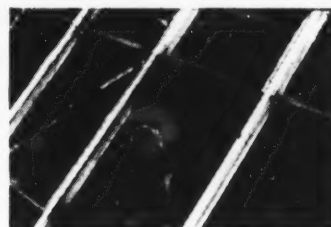

Figure 6
6. When the glass is in place, run a bead of putty or glazing compound along each side of the glass to seal the glass to the roof bar. If the framework is wood, both the bars and glazing compound must be painted to complete the seal (Figure 6).